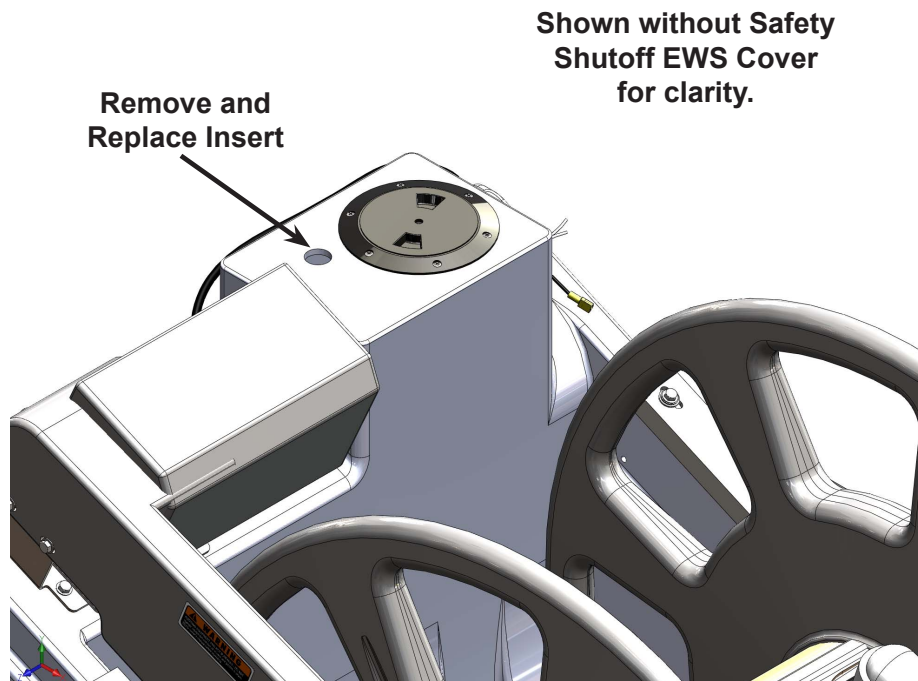

Figure 75. Remove and Discard Original Insert
1. Remove the insert on the HydraCradle Tank as shown in Figure 75.
3. Place the new insert in the HydraCradle Tank as shown in Figure 75.